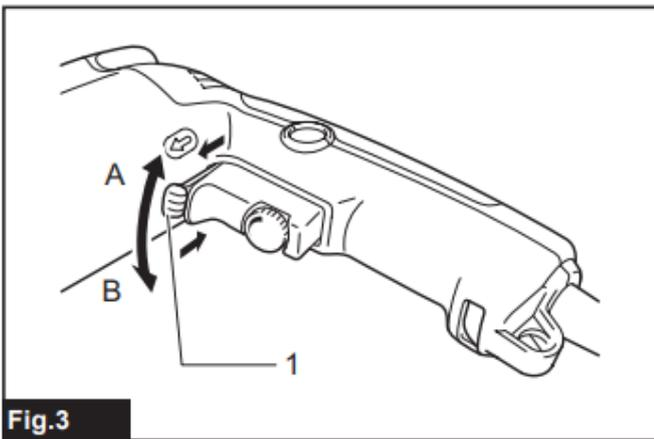

Fig.3
- Fig.3: 1. Reversing switch lever